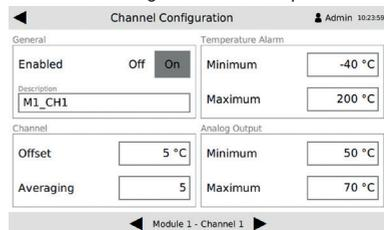

Figure 20: Channel configuration screen
- ↳ The *Channel Configuration* screen opens (Figure 20).